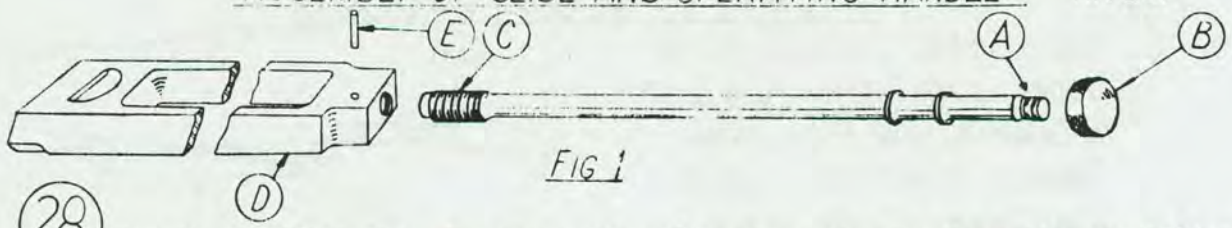

FIG 1
(28) TRY PISTON (A), FIG 1, IN THE RING GAGE (B). OPEN END OF GAGE HAS 0.494" INCH DIAMETER. IF PISTON ENTERS GAGE, IT IS NOT SERVICEABLE. REPLACE WITH NEW PISTON.